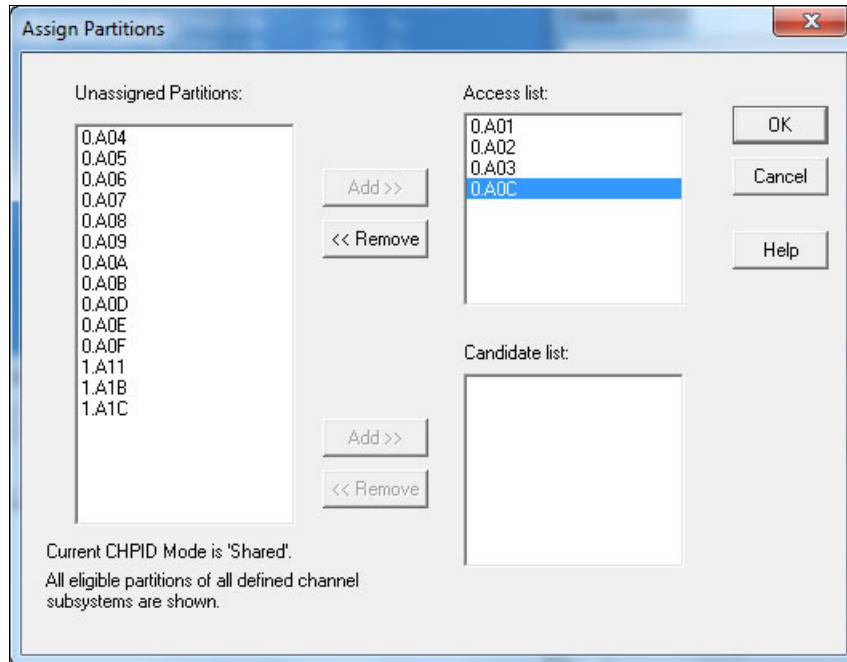

Figure 5-26 HCM - Assign Partitions: selecting partition for CS5 CHPID access
7. Select the required Access and Candidate LPARs for CHPID access list. In our example, we use LPAR A0C (CF) and A01, A02 and A03 (OS), and no Candidate LPARs. Then click **OK**. See Figure 5-26 on page 184.